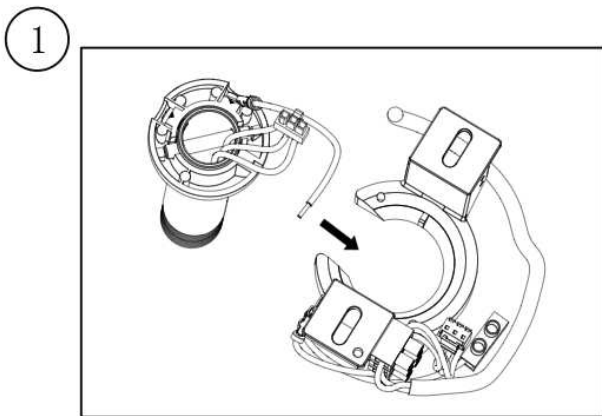

Fig. 6.1
1. Place the hanger onto the mounting bracket. Ensure the key slot of the hanger ball is positioned on the key pin of the mounting bracket to prevent the fan from rotating when in operation; (Fig.6.1)